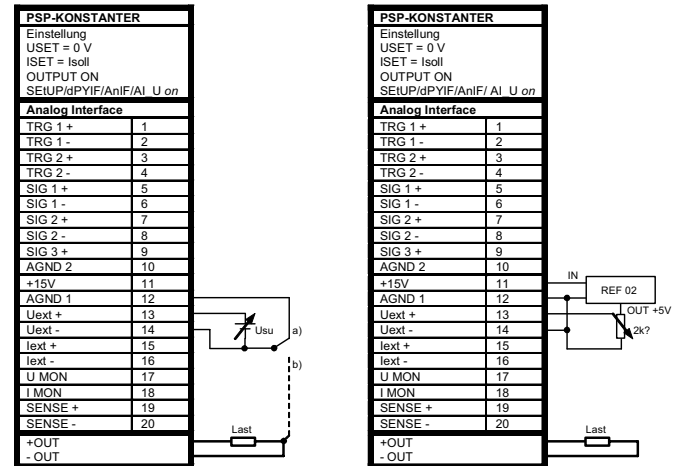

Figure 7.4 Wiring for Controlling Output Voltage with External Voltage / External Potentiometer
- The control inputs are not floating inputs: Their reference point, AGND (1), is connected to the negative pole of the power output.
- If the reference point of control voltage U_{su} is connected to the negative output pole at the load side, the inverting input must be connected to this point (connection b in figure 7.4). Influences resulting from voltage drops in the output lead are thus avoided.
- If control voltage is isolated from the output, connect U_{ext} – to AGND (1) (connection a in figure 7.4).
- If remote adjustment of output voltage is to be accomplished by means of a potentiometer, wiring can be laid out as shown in figure 7.4.